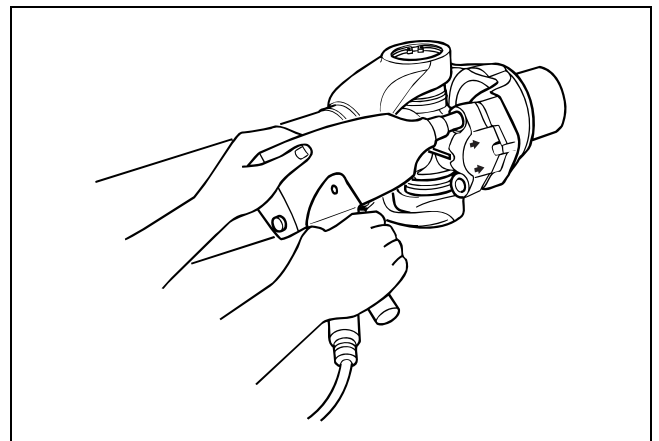

Figure 4.1
2. Use a 12-point socket to loosen the four bolts (1/2 x 20-inch thread) located in the weld yoke end of the driveline. Figure 4.1.